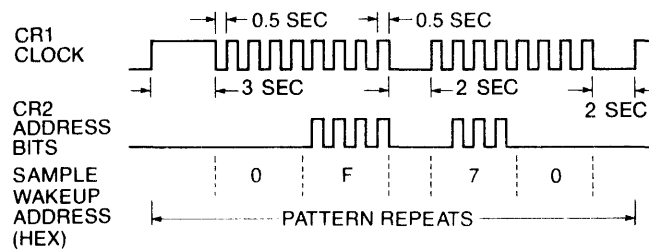

Figure 6-1. Timing for CR1, CR2 Blinking Wakeup Address Test
- 1A CR1, CR2, Blinking Wakeup Address Test:** CR1 is the clock and CR2 represents the bits set by each of the 16 wakeup address jumper settings. The test flashes through an eight-bit cycle, most significant bits first, waits two seconds and then flashes the remaining eight bits, waits two seconds and then loops to repeat the test. See timing diagram, Figure 6-1.
As shown in Figure 6-1, CR1 (clock) is on for three seconds before beginning the first series of eight clock pulses. The value of CR2 is valid only when the clock (CR1) is high (ON). That is, if CR1 (clock) is ON and CR2 is OFF, the bit value is zero. Conversely, if CR1 and CR2 are both on, the bit value is one. Figure 6-1 shows the timing of a sample wakeup address of 0F70 Hex. The test takes approximately 23 seconds to complete one pass.